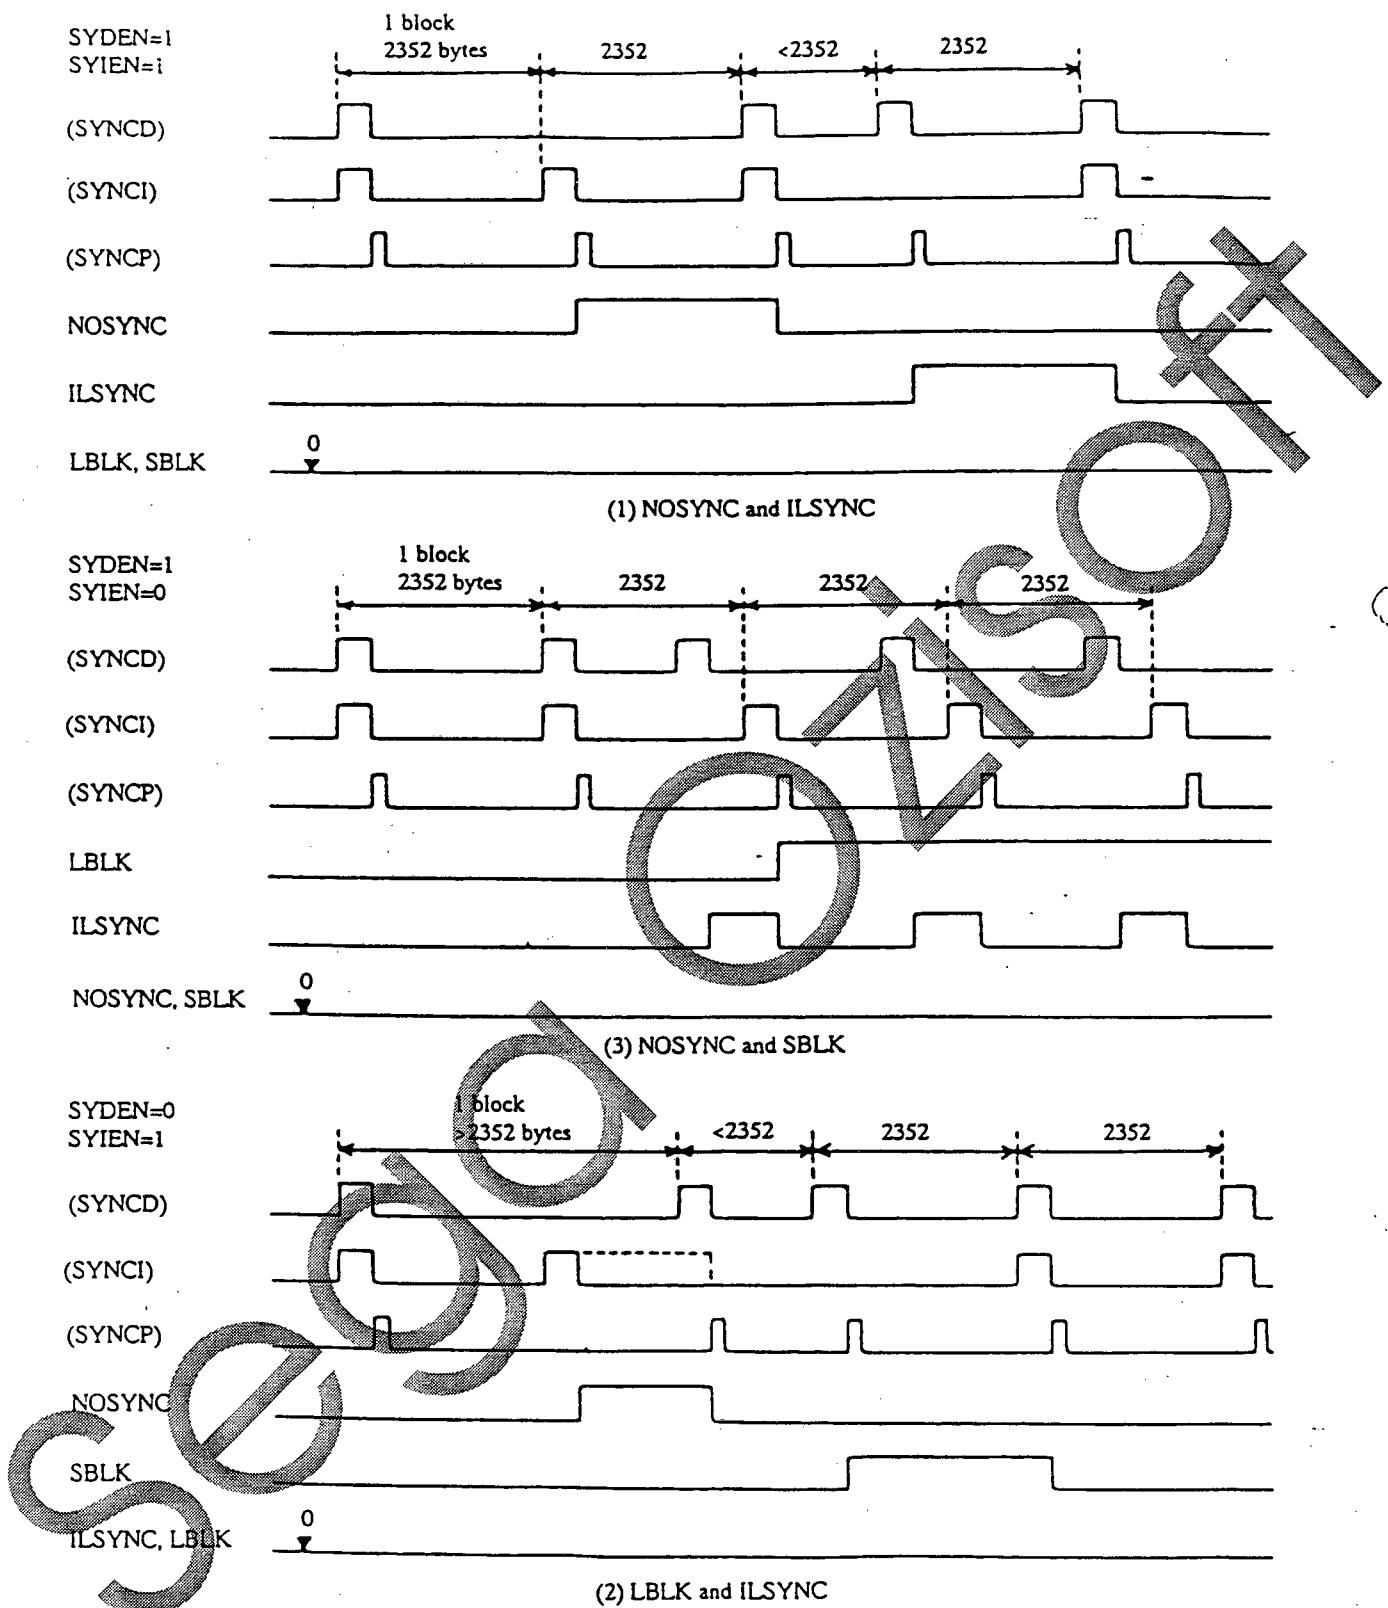

Figure 23. Block Synchronization (1 to 3)
To assist in handling sync errors, the LC8950 maintains NOSYNC, ILSYNC, LBLK and SBLK flags in the STAT0 register. The meaning of each flag is described below. See also figure 23 *Block Synchronization (1) to (3)*.
When ILSYNC is set to 1, the LC8950 resets its internal block-sync signal to the new timing, truncates the current data block and suppresses error detection and correction for the current block because there are insufficient data to decode the block completely. See figure 23 *Block Synchronization (1)*.
Setting SYIEN to 1 (that is, enabling the internal block-sync signal) will prevent LBLK from being set after the next sync pattern is detected. See figure 23 *Block Synchronization (2)*.
If this flag appears at every block, it indicates a complete loss of synchronization. See figure 23 *Block Synchronization (3)*.